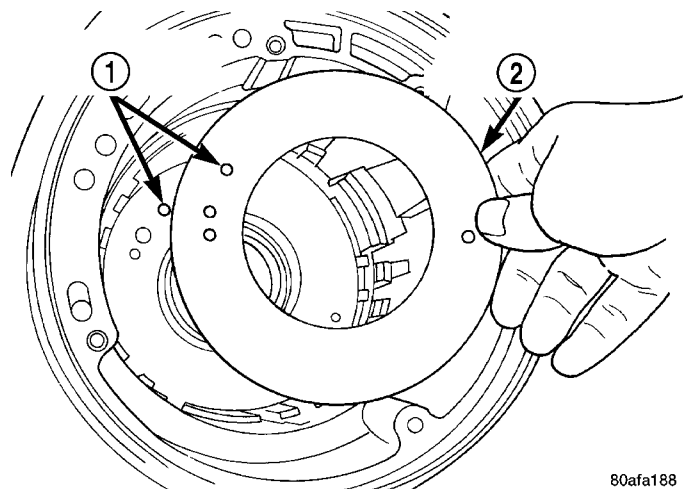

Fig. 82 Remove Piston Retainer Gasket
(65) Remove low/reverse piston retainer-to-case gasket (Fig. 82).